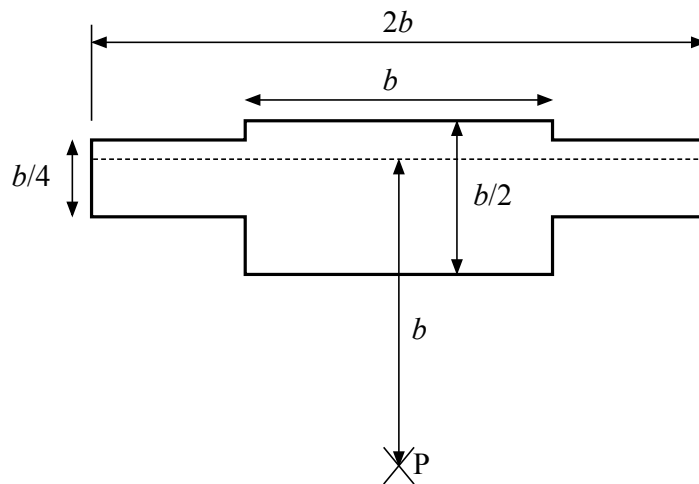

Fig. 5
6 An aircraft has high-lift devices deployed over part of its wing. The effect can be modelled by an extension of the effective chord, resulting in the wing planform shown in Fig. 5. The quarter-chord line is straight along the whole of the wing. The wing is to be modelled by two horseshoe vortices.
- (c) Calculate the downwash at the tailplane (marked by P) located a distance b behind the quarter-chord line, as shown in Fig. 5. [20%]